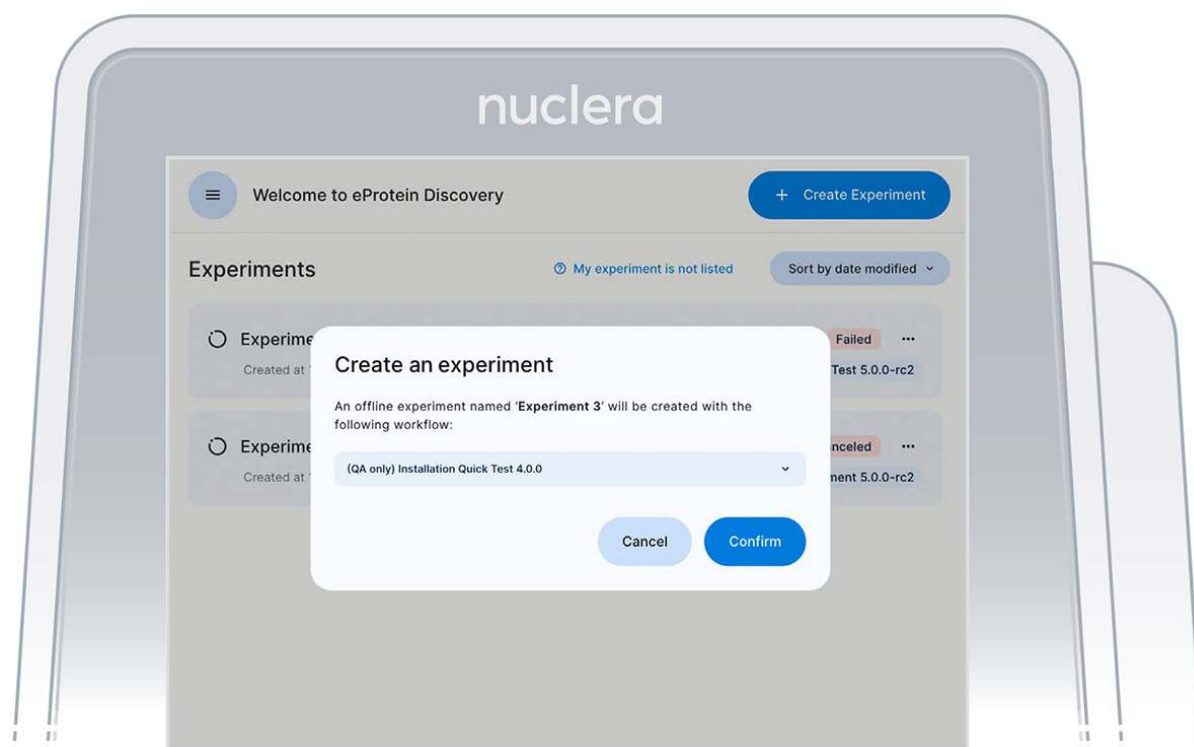

Figure 8: Experimental design screen
2. Select the 'eProtein Discovery Screen Experiment' workflow and press [Confirm] (Figure 8)
3. Select the type of experiment you would like to perform on the instrument (Figure 8). You can choose between: